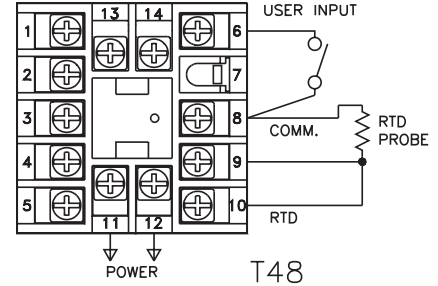

Figure 5, RTD Connection
When connecting the RTD, be certain that the connections are clean and tight, refer to Figure 5 for terminal connections. RTD sensors have a higher degree of accuracy and stability than thermocouple sensors. Most RTD sensors available are the three wire type. The third wire is a sense lead for canceling the effects of lead resistance of the probe. Four wire RTD elements may be used by leaving one of the sense leads disconnected. Two wire RTD sensors may be used in either of two ways:
- B) Attach the RTD to terminals #8 and #10. Install a shorting wire between terminals #9 and #10, as shown in Figure 5, RTD Connection. A temperature offset error of 2.5°C/ohm of lead resistance exists. The error may be compensated by programming a temperature offset.